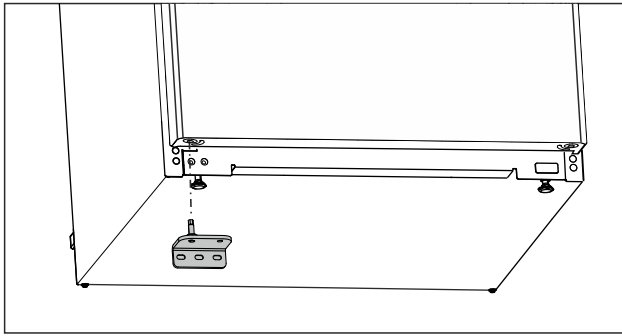

Fig. 17
- Insert the lower swap bearing block on the opposite side. (see Fig. 17)